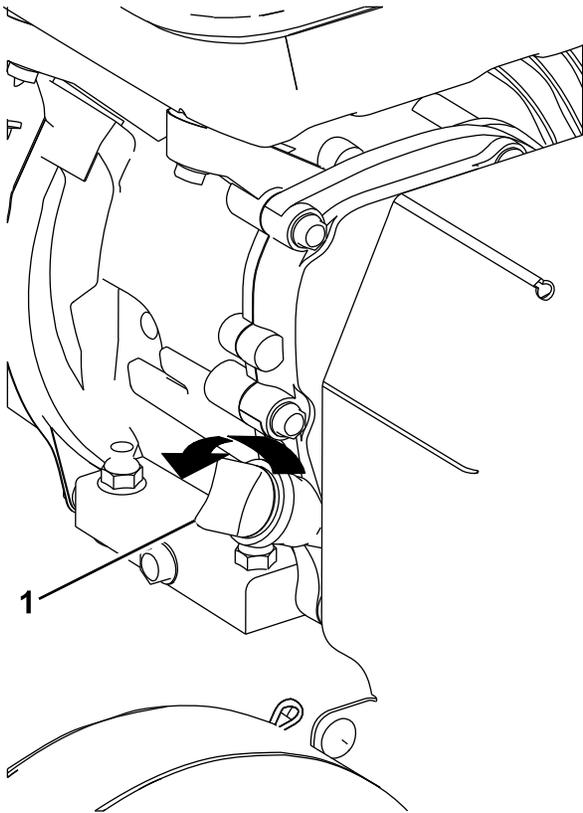

Figure 10
2. Clean around the dipstick to prevent dirt from falling into the filler hole, which causes damage to the engine (Figure 10).
3. Unscrew the dipstick and wipe the end clean (Figure 10).
4. Insert the dipstick fully onto the filler tube (Figure 10).